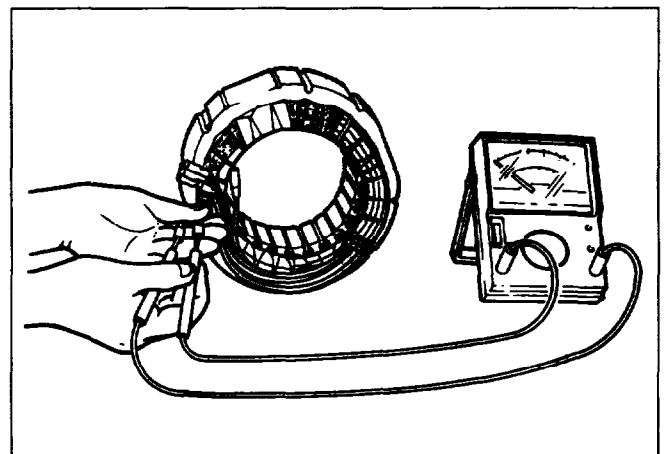

Fig. 11-2
- Measure the resistance between terminals on stator leads. (See Fig.11-2)